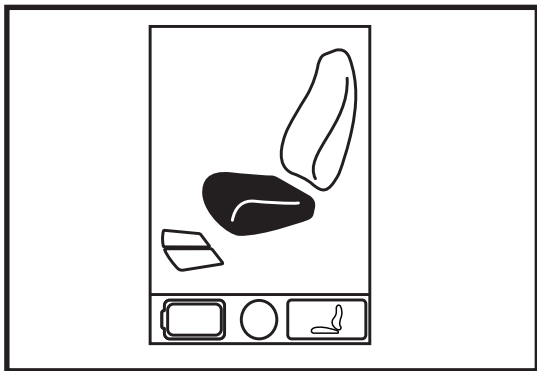

Figure 2. Elevating Seat Mode
2. Push the On/Off and Mode Select Lever up several times until the seat screen is displayed on the LCD or push the key 2 select button once to go directly to seat screen. **See figure 2.**
3. Push the joystick to the left or right to cycle through to the elevating seat mode, this is illuminated on the actuator indicator. **See figure 2.**